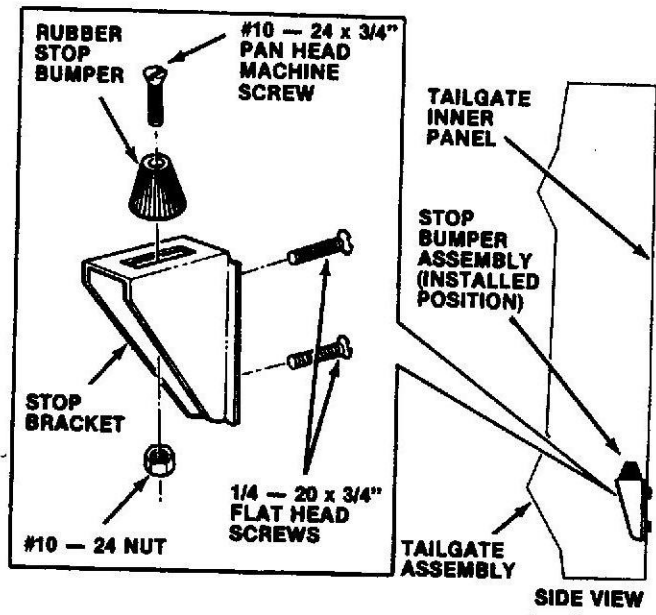

**Fig. 1 Positioning Template on Tailgate Inner Panel**
- (4) Cut two 53-1/2-inch long strips of sealer from roll. Place one strip of sealer over the other (with adhesive sides together) to form one double thickness strip of sealer that is 53-1/2 inches in length.
- (5) Position tailgate glass so bottom edge of glass faces upward. Support opposite edge of glass on cushioned surface to avoid damaging glass.
- (6) Remove silicone treated liner from one side of double thickness sealer strip.
- (7) Center sealer strip over bottom edge of tailgate glass. Starting at one end, install sealer along entire length of glass. Be sure to keep sealer centered on edge of glass during installation.
- (8) Remove silicone treated liner from opposite side of sealer strip and install channel on bottom edge of tailgate glass. Press or tap channel into position carefully. Be sure channel is fully seated before continuing.
- (9) Drill two 1/4-inch mounting holes for stop bumper brackets at each lower corner of tailgate inner panel as follows:
- (a) Position right side template on driver side lower corner of tailgate inner panel (Fig. 1). Align template edges with bottom and side of tailgate inner panel, and tape template in place. Mark hole locations indicated on template using centerpunch and remove template.